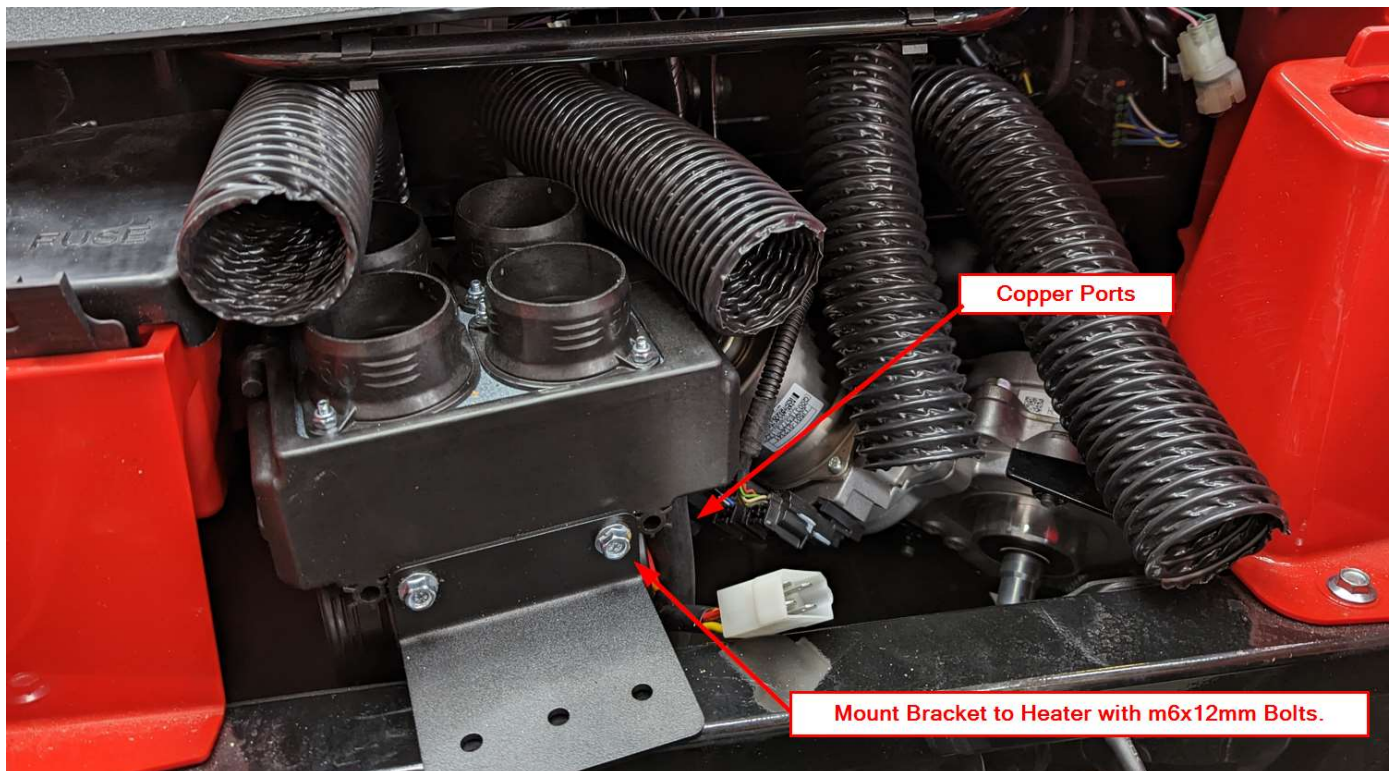

Figure 17
- a. Locate the Main Heater Bracket and the two #6x12mm Serrated Flange Bolts. Attach the Heater Bracket to the Heater unit such that the copper ports are on the right hand side of the bracket as shown in Figure 17.